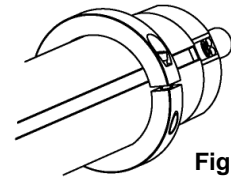

Fig. 2
- Fig. 2 – Core Stop (Ring):** Loosen – do not remove – the socket head bolt in the core stop ring until the ring can slide over the shaft. **Make sure the seam in the ring is not aligned directly over a rubber element.** Position the ring along the shaft as required for your application, then tighten the bolt to 55-60 in·lbs.